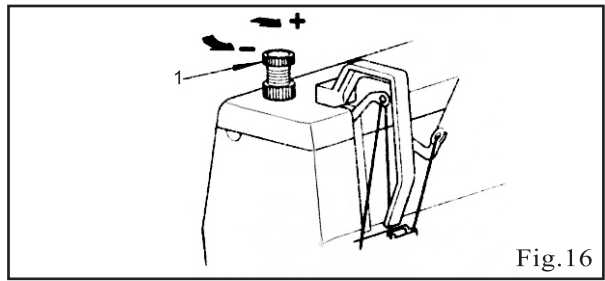

Fig.16
12. ADJUSTING PRESSER FOOT PRESSURE (Fig. 16)